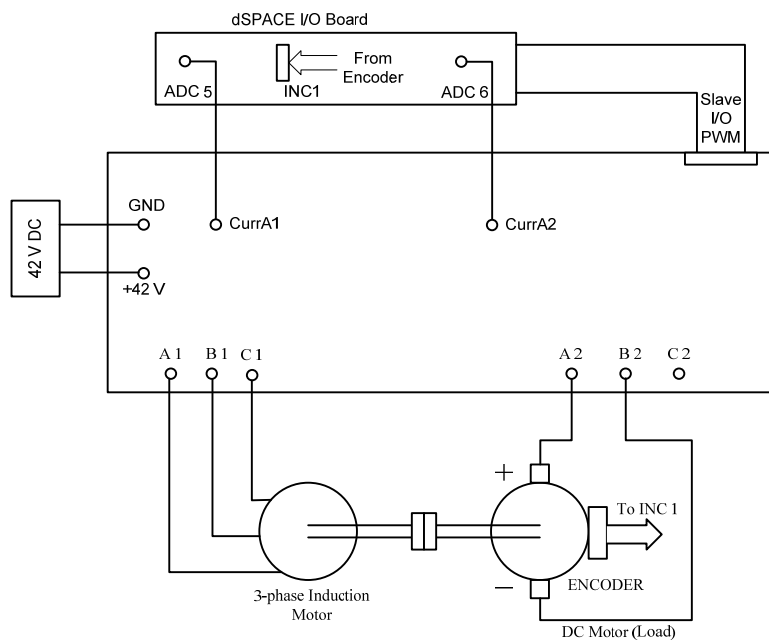

Figure 8.3: Connections for characterization of three phase induction motor
- Connect the circuit as shown in Fig.8.3. The machines terminals have to be connected as: **RED-A1**, **YELLOW-B1**, **BLUE-C1**.